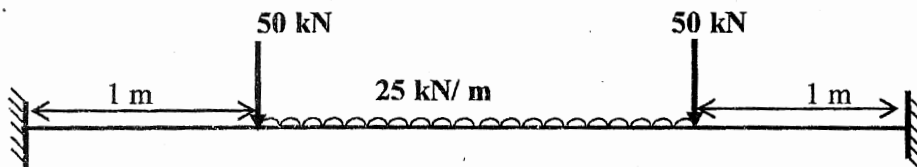

Fig.6
6. Draw the shear force and bending moment diagrams of the beam of span 5 m supported and loaded as shown in Fig.6.